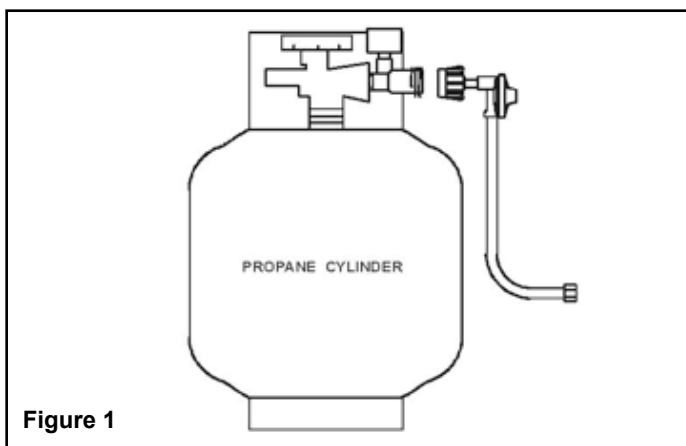

Figure 1
6. When connecting the hose and regulator assembly to the cylinder valve, hand tighten nut clockwise to a full stop (see Figure 1). DO NOT use a wrench to tighten because it could damage the Quick Coupling Nut and result in a hazardous condition.